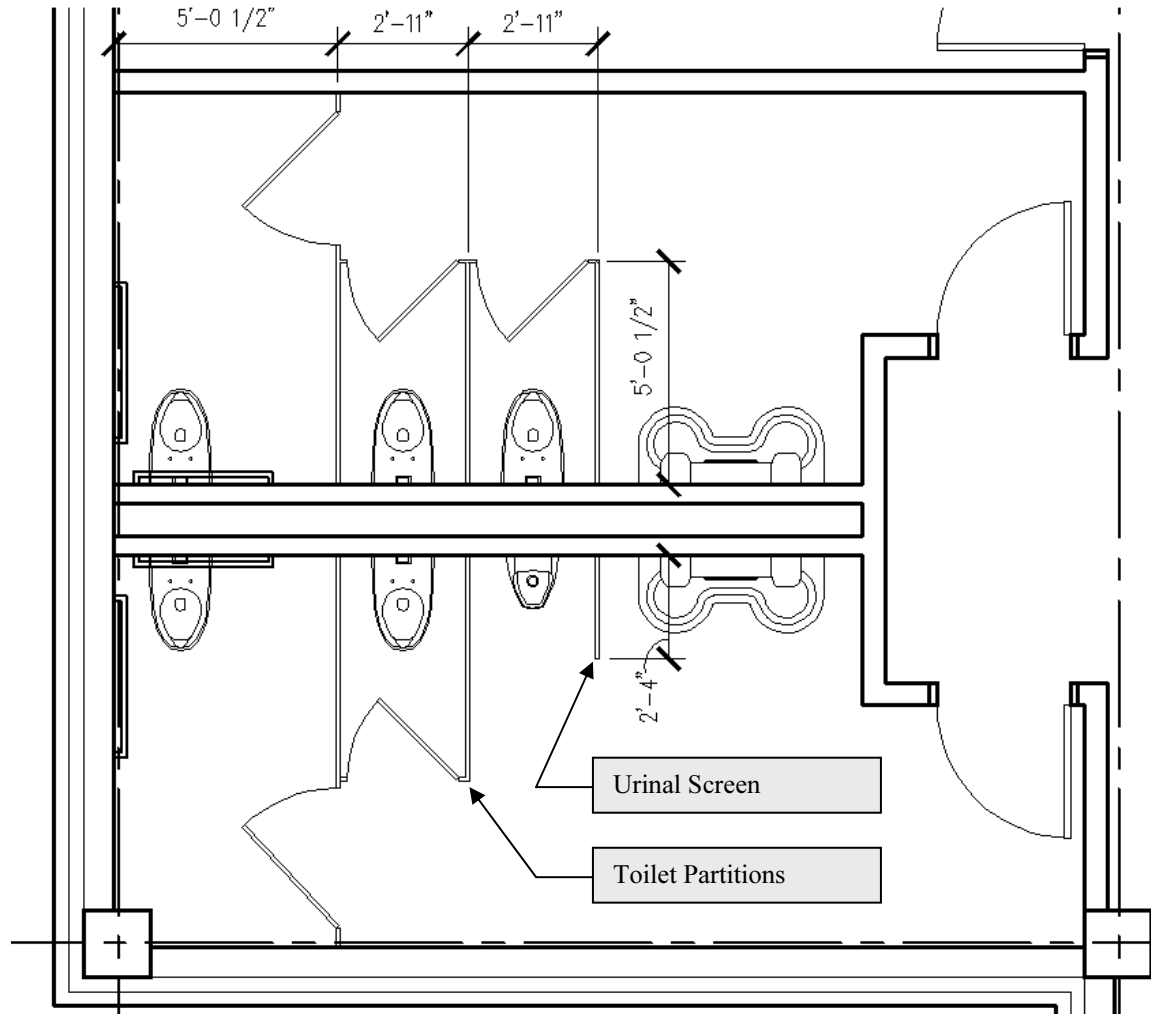

Figure 3-1.10 Drawing the toilet partitions and urinal screen
17. Draw the toilet partitions as shown in Figure 3-1.10, *plus*: